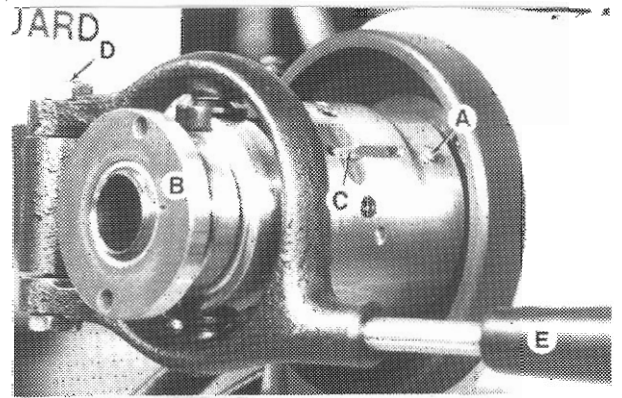

Figure 10.1 ♂ #21 Collet Closer
1. Open latch, Figure 10.1, by pressing down at "C".
9. Move lever "E", Figure 10.1, to the extreme right (closed position). Set machine for "Free Spindle" and turn spindle by hand while pressing in on spindle lock pin until it enters a pulley notch. Turn ring away from operator until adapter is pushed forward as far as it will go without forcing.
DO NOT REMOVE COLLET CLOSER BY REMOVING SCREWS "D", FIGURE 10.1. These screws are factory adjusted for proper operation of collet closer.
2. Turn ring "B", Figure 10.1, away from operator to disconnect draw tube from adapter.
5. Remove two screws "A". Figure 10.1.
5. Align holes and replace two screws "A", Figure 10.1.
7. Engage draw tube threads with adapter threads by turning ring "B", Figure 10.1, toward operator.